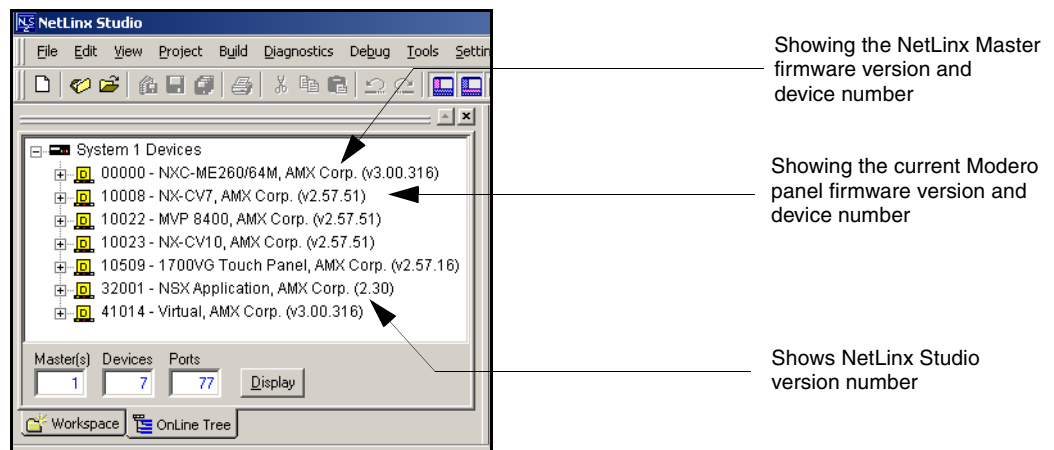

FIG. 60 NetLinx Workspace window (showing connected Modero panel)
3. After the Communication Verification dialog window verifies active communication between the PC and the Master, verify the panel appears in the **OnLine Tree** tab of the Workspace window (FIG. 60). *The default Modero panel value is 10001.*